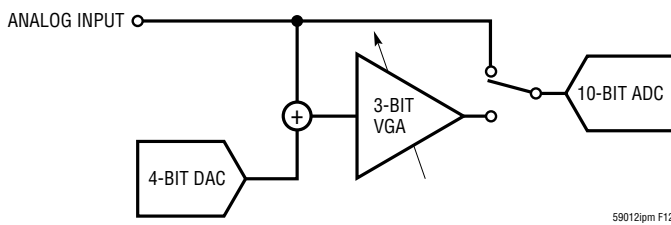

Figure 12. Analog Input Chain
**AI\_0, AI\_1, AI\_2, AI\_3:** Analog Inputs. These pins are multiplexed to the analog input chain. The analog input chain, as shown in Figure 12, is software-configurable and includes a variable-gain amplifier, an offset-DAC for adjusting input range, and a 10-bit ADC. Valid input range is between 0V to 1.8V. Analog inputs can be sampled as described in section Signal/Data Acquisition and Control.